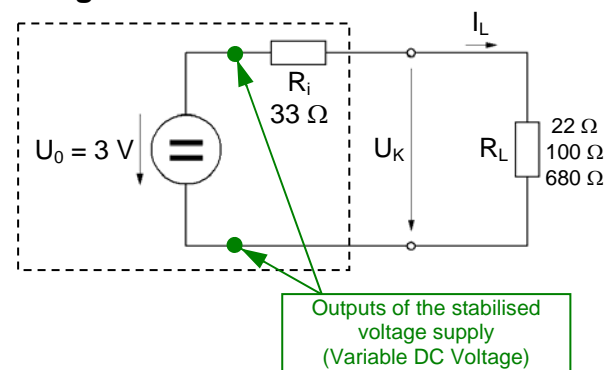

Fig. 5.2.1: Simulation of an equivalent voltage source
First, the characteristic of an equivalent voltage source will be recorded. Since the Board incorporates only stabilised voltages, an equivalent voltage source will be simulated by an external  $R_i = 33 \Omega$  (Fig. 5.2.1). The output of the variable voltage supply is set to 3 V and used as the source voltage  $U_0$ .
- Simulate the equivalent voltage source on the Board, as shown in Fig. 5.2.1.